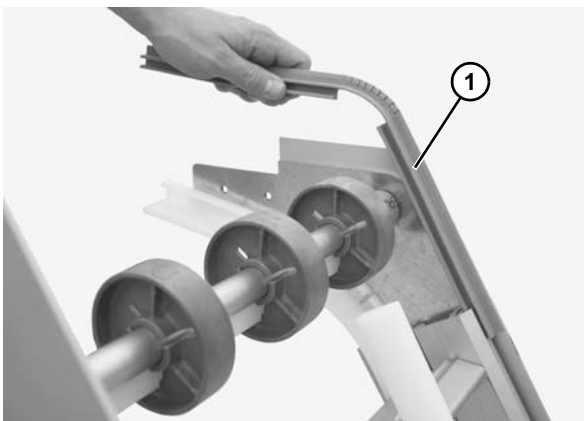

Figure 89
4. Remove upper edge wearstrip (**Figure 89, item 1**). Repeat on other side.